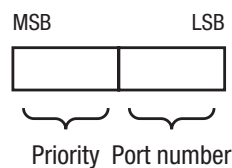

Fig. 34: Port identification
- ▶ If there are two paths leading away from a single bridge with the same root path costs, the port identification is used as the last criterion for determining which path is used (see Fig. 34). It decides which port is selected.